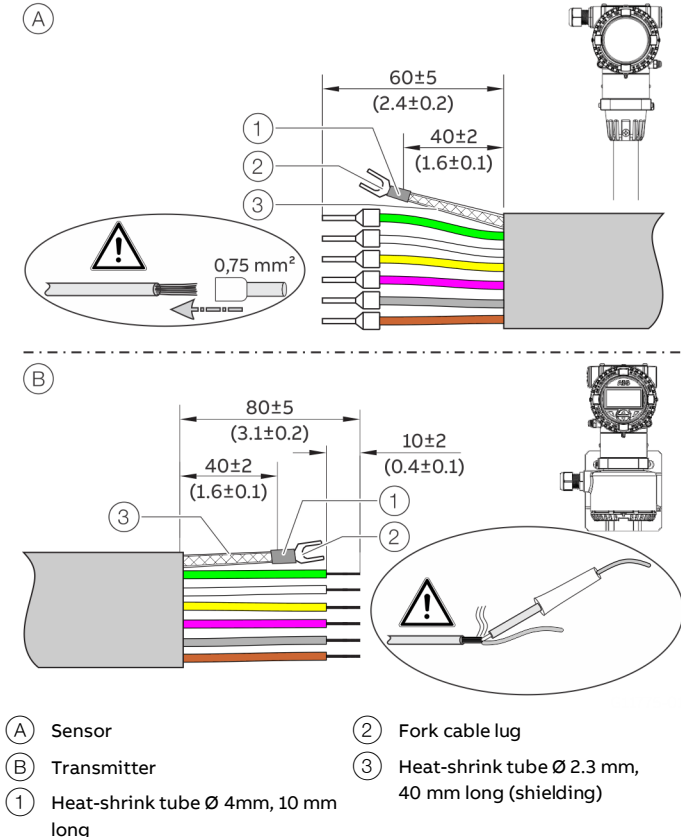

Figure 29: Signal cable, dimensions in mm (in)
The signal cable can also be cut to any length. Then the cable ends must be prepared as shown in Figure 29.
3. Produce the signal cable in accordance with the specification (see **Figure 29**).